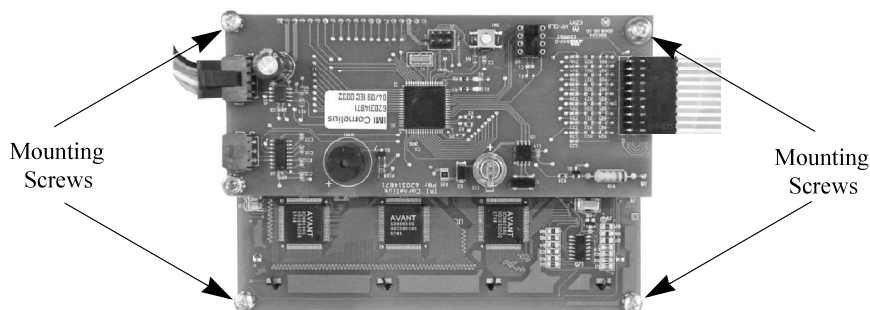

Figure 58. View of Display Board
The display board is located on the back of the control panel display. It is mounted to the panel with four (4) Phillips head screws, shown in Figure 58.